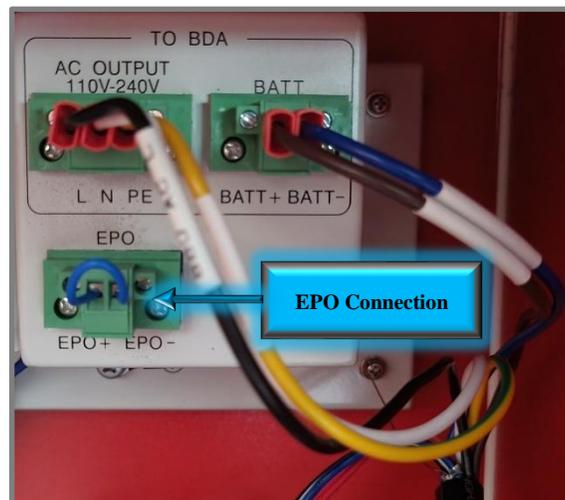
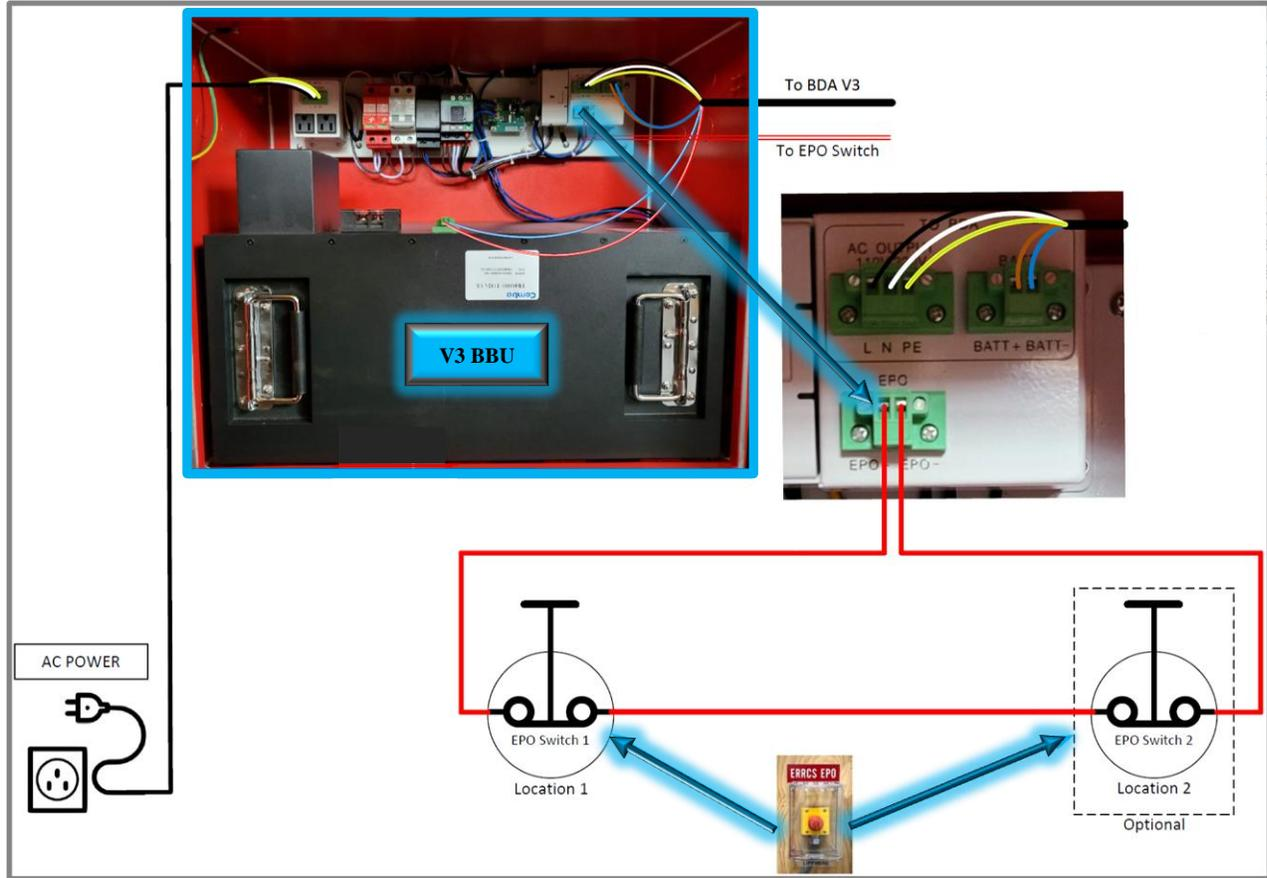

Figure 46: V3 BBU EPO Switch Connection
Figure 47: EPO Switch Wiring Diagram
- The EPO connector should be either connected to an external EPO (Require **Normally Closed EPO**) or leave it shorted, as shown in Figure 46. If using an EPO switch connect it now. See the following EPO Wiring Diagram in Figure 47 for more details.